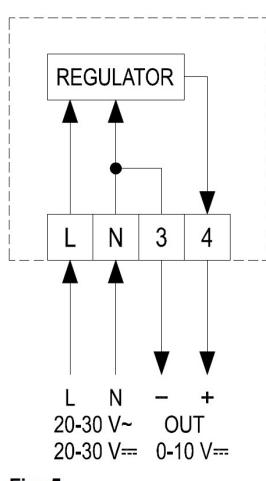

Fig. 5
- Make the electrical connections, routing the wires through the rectangular opening (3) and following to the diagram of Fig. 5.